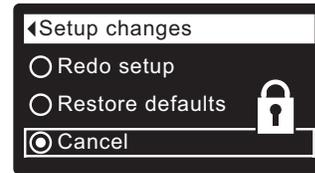

FIG. 31
8. Press the RIGHT (▶) button. A flashing padlock icon will appear, as shown in Figure 31.
- 1-7. Go to the **Setup changes** screen (Figure 31) by following Steps 1-7 at left.